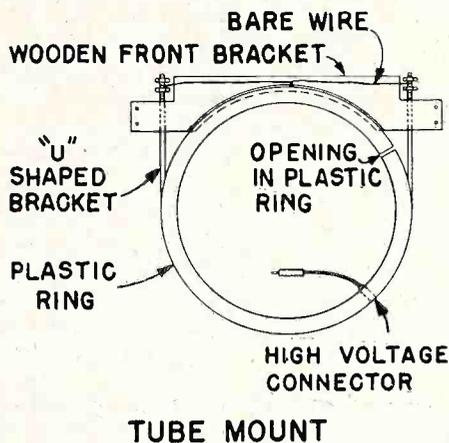

Fig. 1. Front mounting of kinescope, Sears 110.499 Series.
- (1) Remove the back cover by removing the screws holding it to the cabinet.
(2) Be sure that the kinescope tube protector (cup) is mounted on the outside of the cabinet back. If it is mounted on the inside, turn it around.
(3) There should be a wooden block mounted in the center of the lower back rail to protect the portion of the kinescope tube extending beyond the cabinet. If it is not there, it will be found in back of the power transformer, remove it, and mount it on the rail.
(4) Unscrew top panel and pull straight out. Do not remove the focus and deflection coils from the panel.
(5) Remove the plastic insulating ring by loosening the two nuts holding the kinescope "U" shape mounting ring and unwrapping the bare wire from the top ends of the mounting ring. (It is not necessary to take the nuts off. Loosen them until you can take the plastic insulating ring out.)
(6) Remove the high voltage connector from the ring.
(7) Remove the wire from the plastic ring. The wire will be used later.
(8) Remove the 5U4 tube.
(9) Place plastic ring on kinescope tube with trade mark facing the neck of the tube.
(10) Place high-voltage connector under the plastic ring in the position indicated in Fig. 1.
(11) Place bare wire in the outer groove of the plastic ring and twist, leaving two equal ends as indicated in Fig. 1.